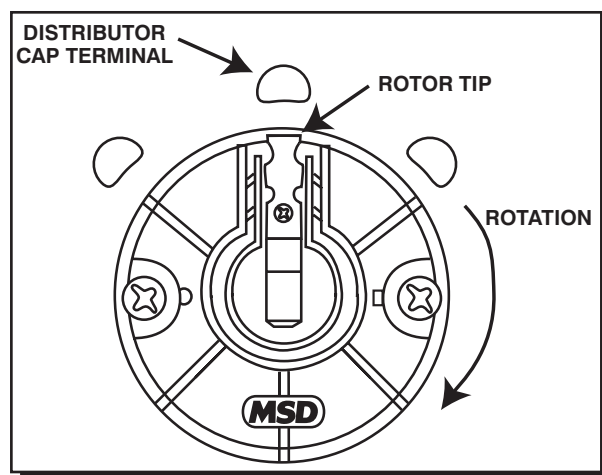

Figure 3 - The rotor tip should align with the cap terminal when the spark occurs.
**No Vacuum Advance:** The rotor tip should line up with the cap terminal or be on the leading edge of the terminal when the spark occurs (Figure 3). This ensures that the spark is jumping to the correct cylinder at the proper time.